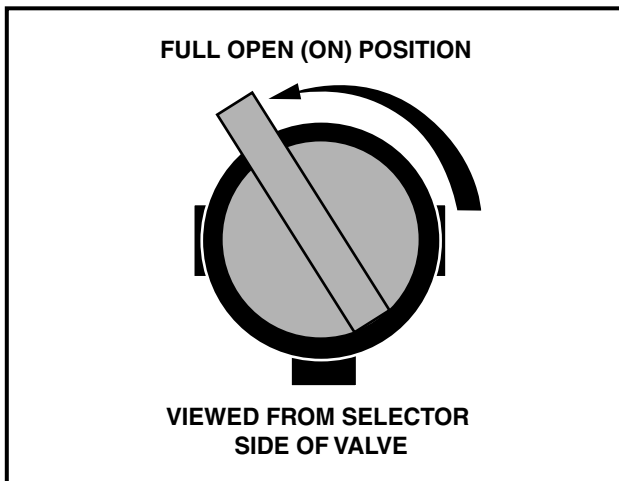
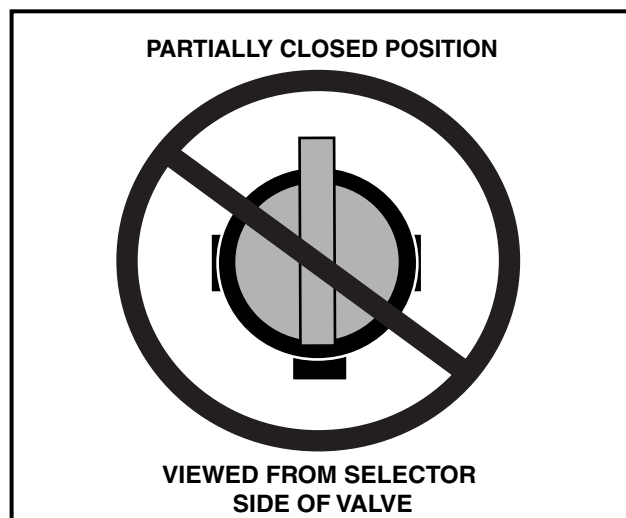

Figure 11 Fuel Shut-off Valve – Open Position
Figure 12 Incorrect Fuel Shut-off Valve Setting
3. Completely open the fuel shut-off valve (**Figure 11**). Make sure the valve is fully open. A partially closed fuel shut-off valve (**Figure 12**) combined with the use of the choke can result in a fouled spark plug and engine failure.